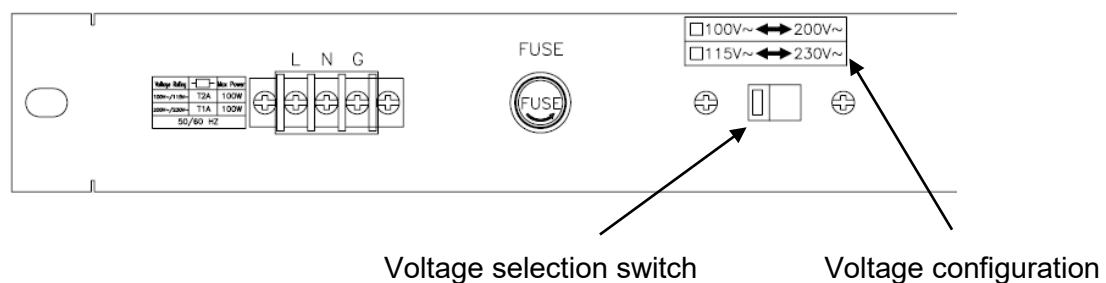

Fig 2-2 33432G LINE INPUT AND VOLTAGE SELECT SWITCH
- 2.2.3 Refer the drawing on the rear panel of 33432G high power load in Fig 2-2, set the switches to the proper voltage as describe in the following: